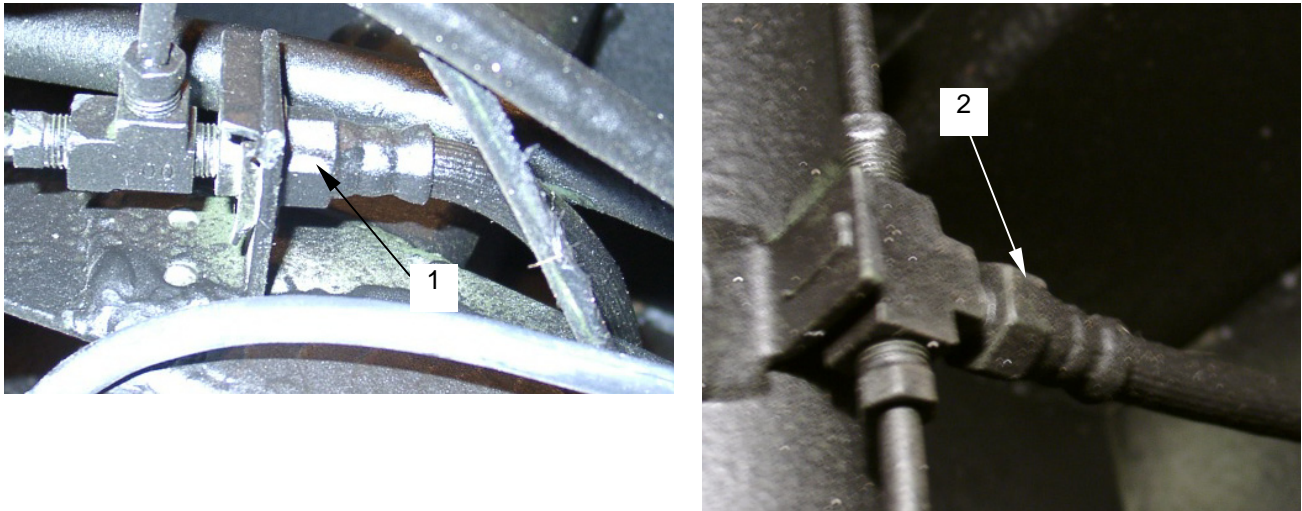

Figure 44. Hose, Tee To Tee
- a. Loosen and remove hose to first tee (**figure 44, item 1**).
- b. Loosen and remove hose to second tee (**figure 44, item 2**).
- d. Fasten and tighten hose to first tee (**figure 44, item 1**).
- e. Fasten and tighten hose to second tee (**figure 44, item 2**).